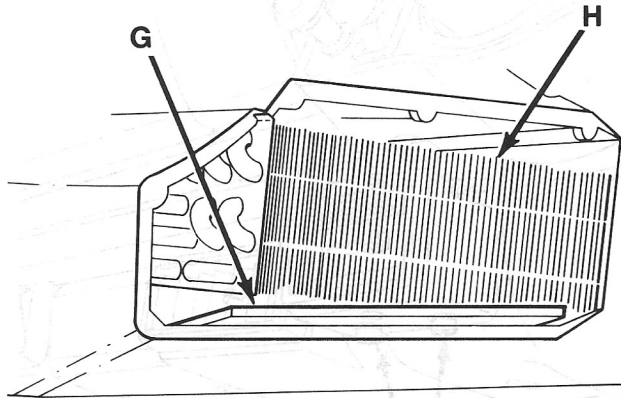

Fig. 9
6. Place a piece of sheet metal (G) between the evaporator core (H) and the front of the evaporator housing (Fig. 9).